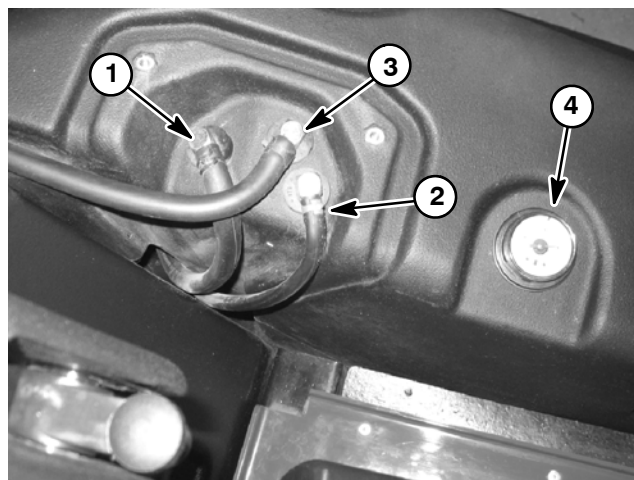

Figure 6
3. Remove two (2) screws (item 13) that secure cover plate (item 2) to fuel tank. Remove cover plate from fuel tank.
**NOTE:** Before removing fuel hoses from fuel tank fittings, label hoses for assembly purposes (Fig. 6).
5. Remove two (2) flange nuts (item 14) from threaded ends of tank bracket (item 20). Remove tank bracket.
6. Loosen and remove cap screw (item 17), three (3) washers (items 18, 23 and 22) and flange nut (item 14) that secure rear of fuel tank to frame. Locate and retrieve spacer (item 19).
7. Loosen and remove cap screw (item 15), three (3) washers (items 18, 23 and 22) and flange nut (item 14) that secure front of fuel tank to frame. Locate and retrieve spacer (item 21).